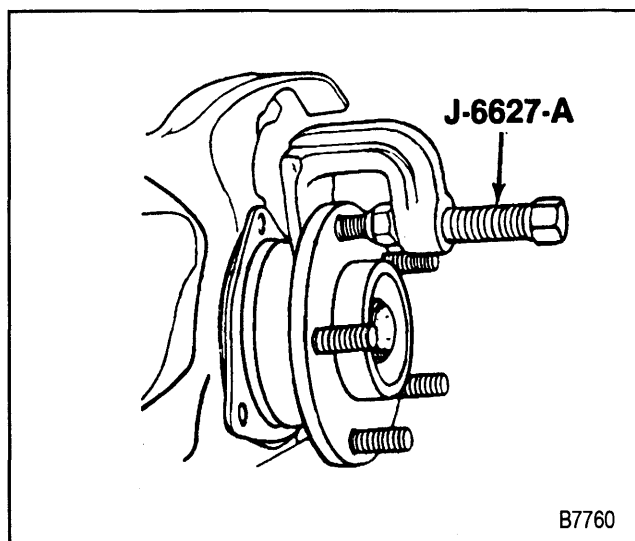

Figure 34—Removing the Wheel Hub Bolts
Remove or Disconnect (Figure 34)
1. Stud (112) to the hub and bearing assembly.
2. Washers (A) and nut (B) to the stud (figure 34).